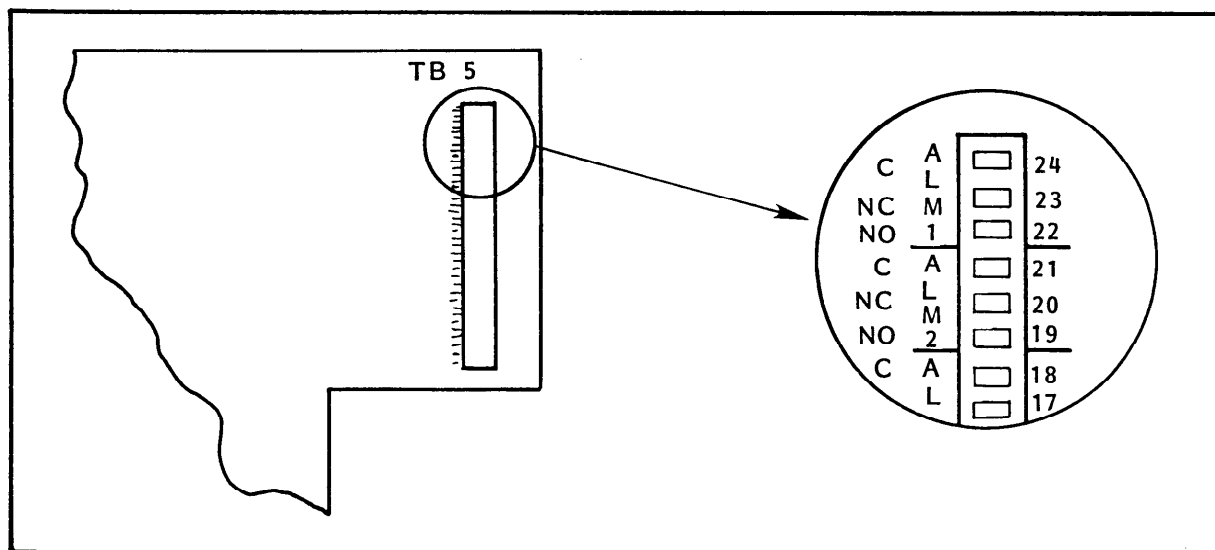

Figure 6
The NFS-1 Monitor is designed to accommodate an external alarm device. Each of one to four gun channels has an individual signal to activate horns, bells, lights or other alarm devices. There are two options to choose from. "Normally Open" (NO) is utilized to activate an external alarm such as light, horn, etc. "Normally Closed" (NC) is utilized to shut down a piece of equipment or to interrupt the flow of cans to the machine and at the same time alert the operator of the malfunction. NO and NC can be used at the same time. Terminal C is the "Common" connection (Figure 6).